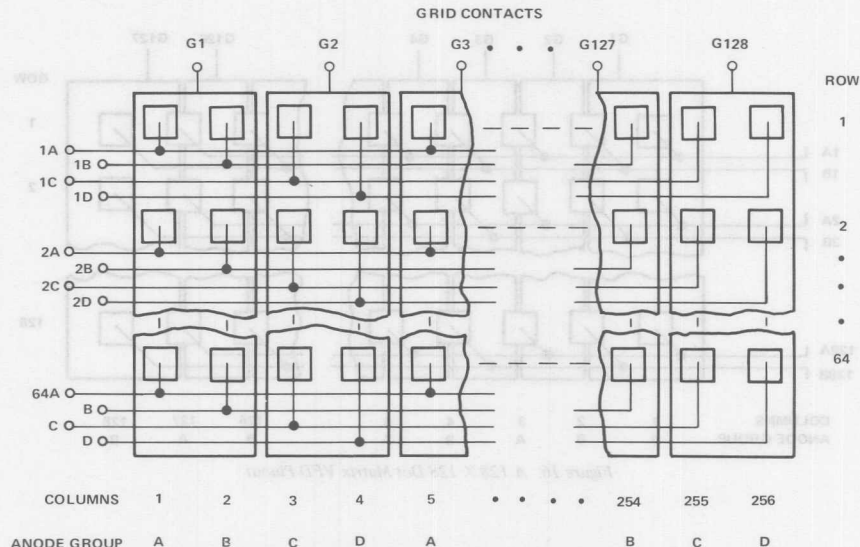
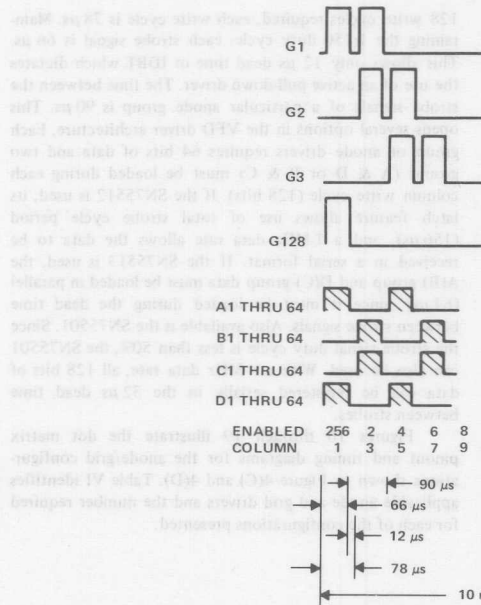

Figure 14. A 256 \times 64 Dot Matrix VFD Pinout
Figure 15. Timing Diagram for VFD of SN75512
Figure 14 illustrates the VFD grid/anode arrangement for a DM 256 \times 64A. This is a 256 \times 64 dot matrix VFD by Noritake whose grid/anode configuration is as illustrated in Figure 4(B). Figure 15 shows the required timing of the anode and grid signals to properly operate the DM 256 \times 64A. As can be seen in Figures 14 and 15, the active columns are composed of anodes which are in-board the activated grids. When grids 1 and 2 are activated, columns 2 and 3 are in-board, and columns 1 and 4 are out-board. The purpose of this arrangement is to eliminate fringing effects of neighboring grids and thus achieve uniform intensity. Analysis of this configuration also shows requirements on panel drive electronics which are common to the previous examples. If the total panel refresh rate is held to 100 Hz, the total panel period (T) is 10 ms. With